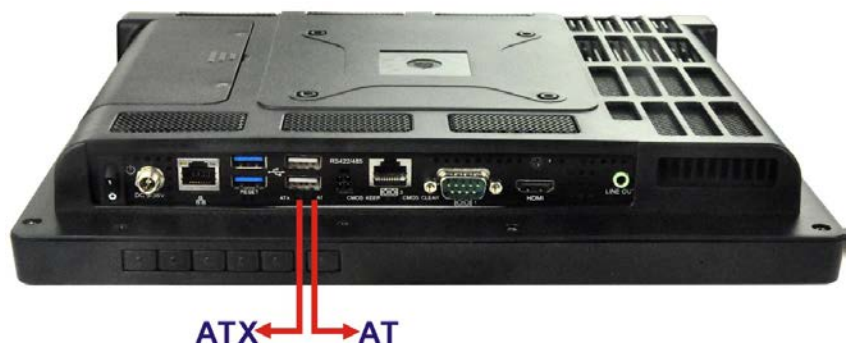

Figure 4-6: AT/ATX Switch Location
Step 1: Locate the AT/ATX switch on the I/O panel (**Figure 4-6**).